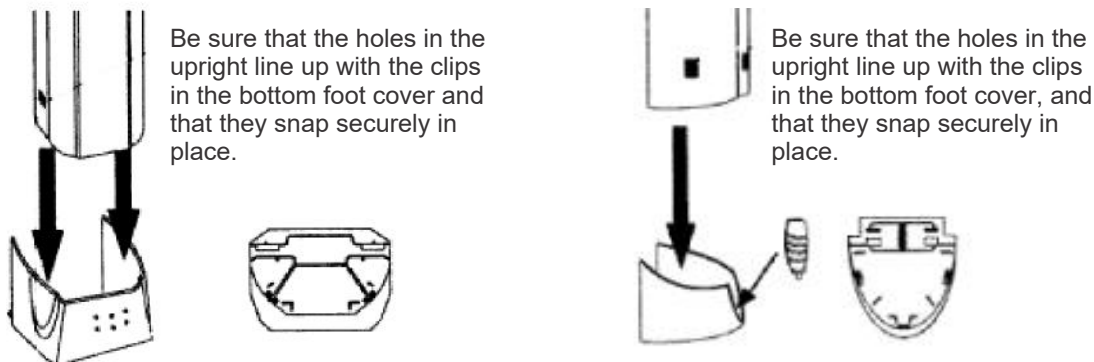

Fig. 53
- Models with resin bottom foot covers instead of bottom plates, do not require hardware in order to secure the upright at the bottom. Simply line up holes in the lower portion of the upright with the corresponding clips in the bottom foot cover and push them down until they lock in place. (Fig.53). When this is done properly the upright will not be able to be pulled up without bringing the bottom foot cover with it.